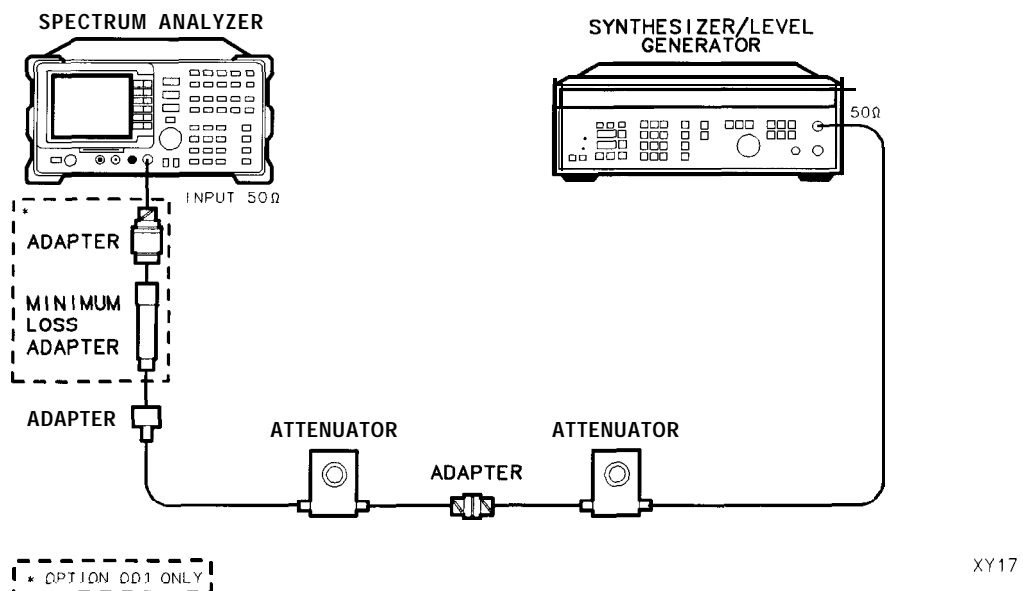

Figure 1-9. Scale Fidelity Test Setup
2. Connect the equipment as shown in Figure 1-9. Set the 10 dB step attenuator to 10 dB attenuation and the 1 dB step attenuator to 0 dB attenuation.